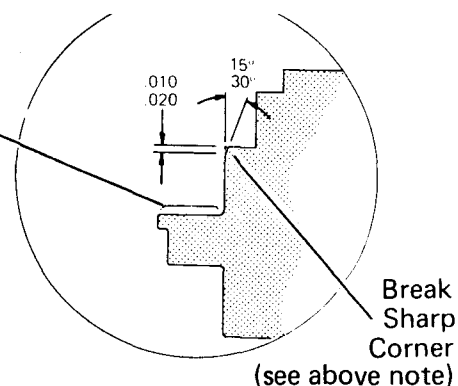

Figure 19
**Note:** When replacing a quad seal and back-up washer with a high pressure seal (9057-1), it is necessary to break the sharp corner of the flange seal seat (see Fig. 19) prior to installation of the high pressure seal. Use 400 grit paper to break corner.
**30** Clean mounting flange of all loose metallic chips, particles, dirt or other contamination, including oil. During cleaning, visually check seal seat in mounting flange for scratches or other marks that might damage the pressure seal. Check for cracks in flange that might cause leakage, see Fig. 19.